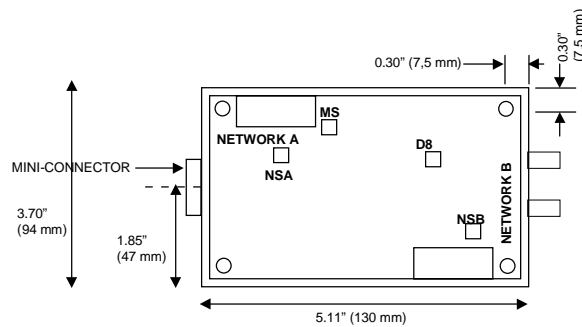

Figure 5-1 WRC-CANR-DF-DN CAN-Bus Extender
A WRC-CANR-DF-DN Multiplexer has six (6) LEDs that provide visual status information to the user about the product and the DeviceNet network. See Figure 5-1, Table 5-1, Table 5-2 and Table 5-3.